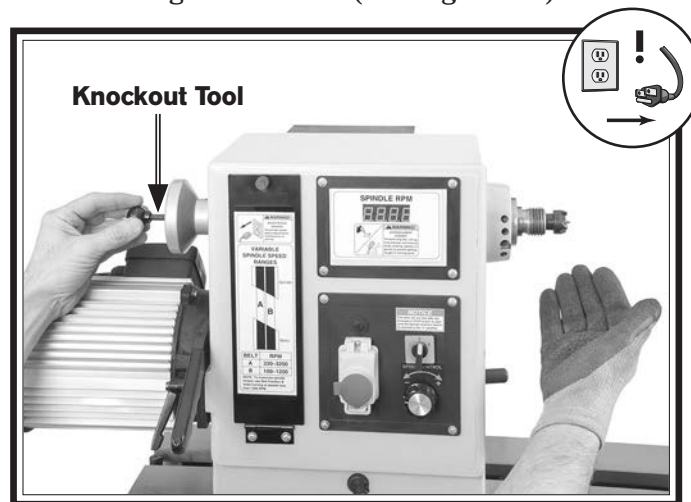

Figure 22. Example of removing headstock center with knockout tool.
3. Insert knockout tool through opposite end of spindle and firmly tap back of center, catching it as it falls (see Figure 22).